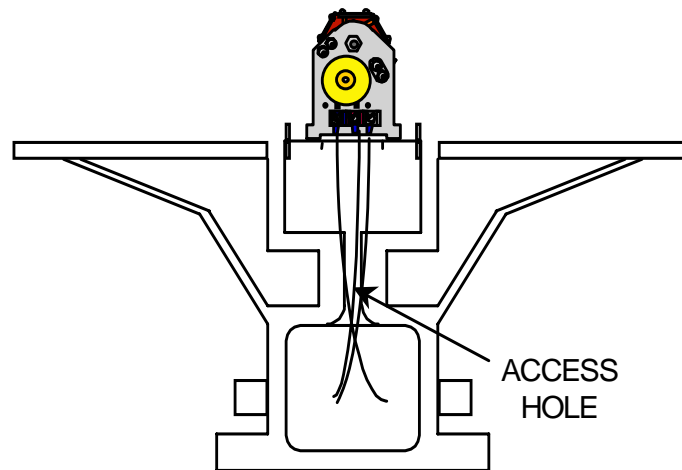

Figure 3-42
- (13) If using a flasher, wire the lampchanger with a WK-681 wiring kit. Loop the wires from the lampchanger under the plate and connect to the flasher. Secure the flasher and lampchanger with four 10-32 screws.
- (14) Make up two wires, one black and one white each two feet long with lugs attached to **ONE** end. The wires should be 12 AWG with PVC or Teflon insulation.
- (15) Attach the black wire to the flasher (+) terminal and the white wire to the flasher (-) terminal.
- (16) Make sure the springs are still in place in the flasher housing (inside beacon).
- (17) Pass the two or three wires through the opening in the bottom of the flasher housing and pull the leads in the beacon base as the assembly is lowered, as shown in Figure 3-42.